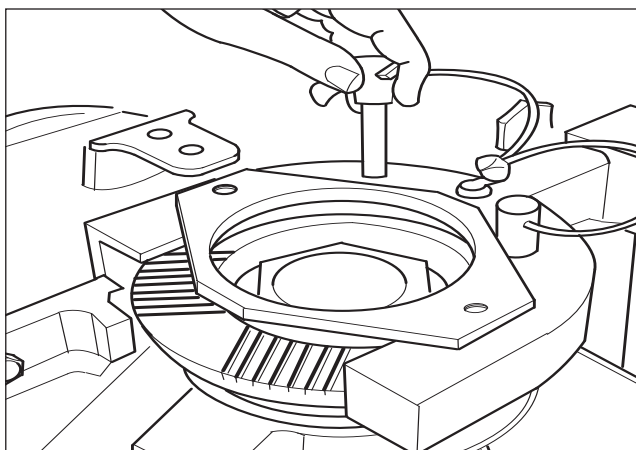

Fig. 2.62
3. Lock flange with service tool CT13. (Fig. 2.62)